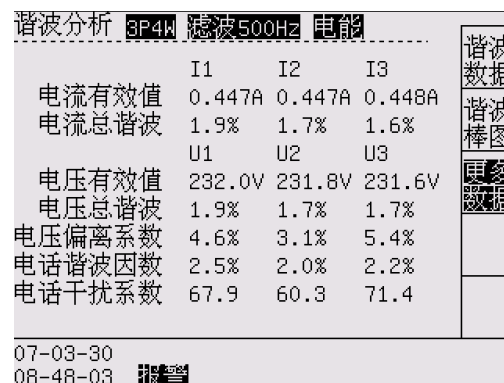

Figure 7-3 More data
More data---more harmonic data; (Figure 7-3)
3.4 More data (Figure 7-3). Include: